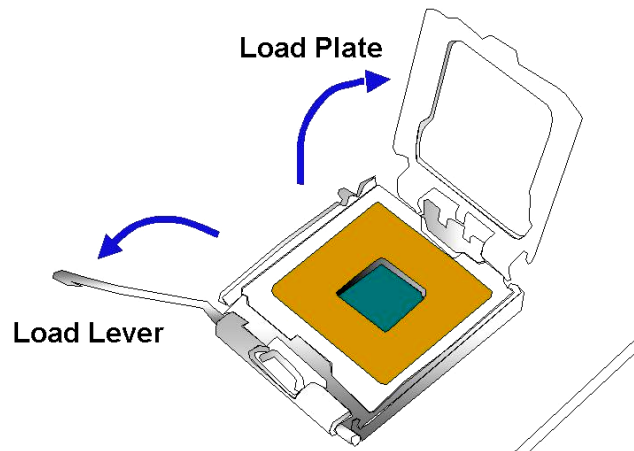

Figure 4-3: Open the CPU Socket Load Plate
Step 2: Open the socket. Disengage the load lever by pressing the lever down and slightly outward to clear the retention tab. Rotate the load lever to a fully open position. Then rotate the load plate towards the opposite direction. (See Figure 4-3)